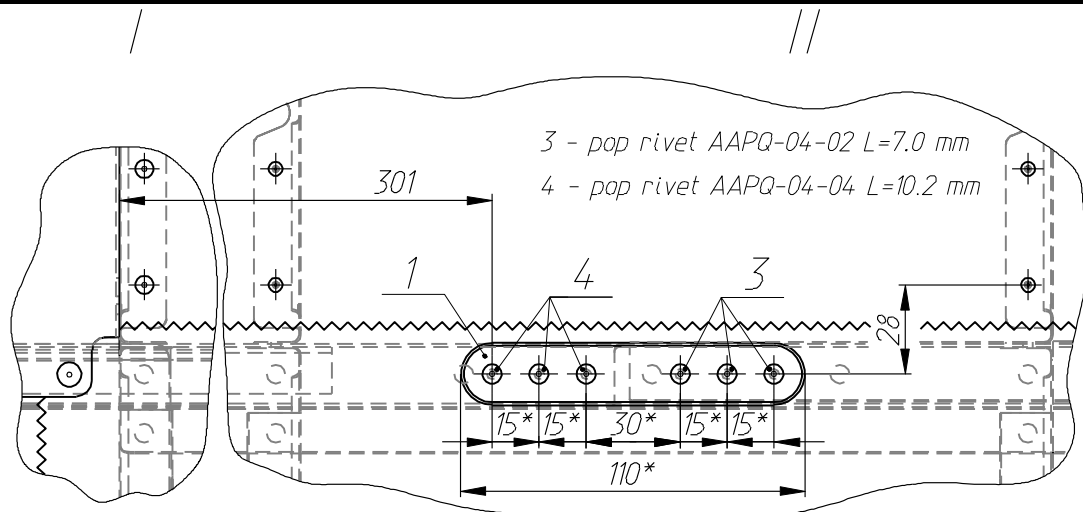

Fig. 3
- 1.6. Attach the doublers with pop-rivets (3) and (4) as shown in fig. 3 (symmetrically about the ASP).
- 2.6. Attach the doublers with pop-rivets (3) and (4) as shown in fig. 3 (symmetrically about the ASP).